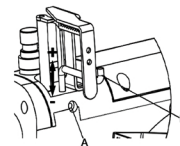

图12 (Fig.12)
- 2.Adjustment.(Fig.12) The position for Needle thread Take-up Lever (B) is adjustable according to thread used. Loosen screw (A), move lever (B) up and down for the optimum position .For instance ,when using high extension thread ,move lever (B) upward to make a bigger needle thread loop for lower to chain easily.